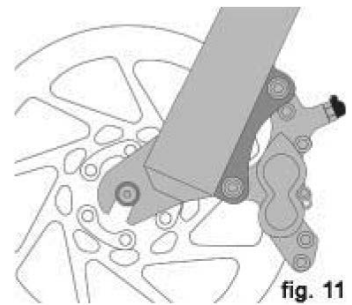

fig. 11
- (1) If your bike has rim brakes, disengage the brake's quick-release mechanism to increase the clearance between the tire and the brake pads (See Section 4.C fig. 11 through 15).
- (2) If your bike has rim brakes, disengage the brake's quick-release mechanism to increase the clearance between the wheel rim and the brake pads (see Section 4.C, fig. 11 through 15).
- (3) On a derailleur gear system, pull the derailleur body back with your right hand.
- 3. Some bicycle brakes, such as disc brakes (fig. 11) and linear-pull brakes**